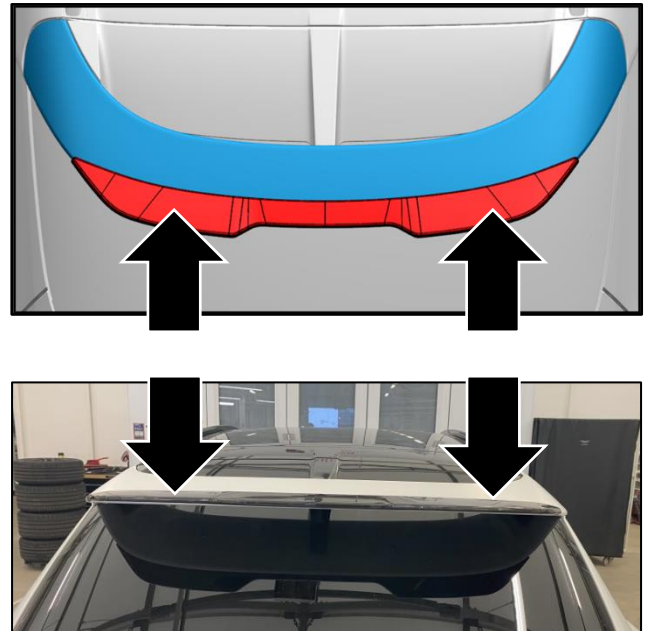

Figure 1
1. Apply a force equal to 10 kg in downward direction to check the spoiler flip part is installed securely (refer to Figure 1)